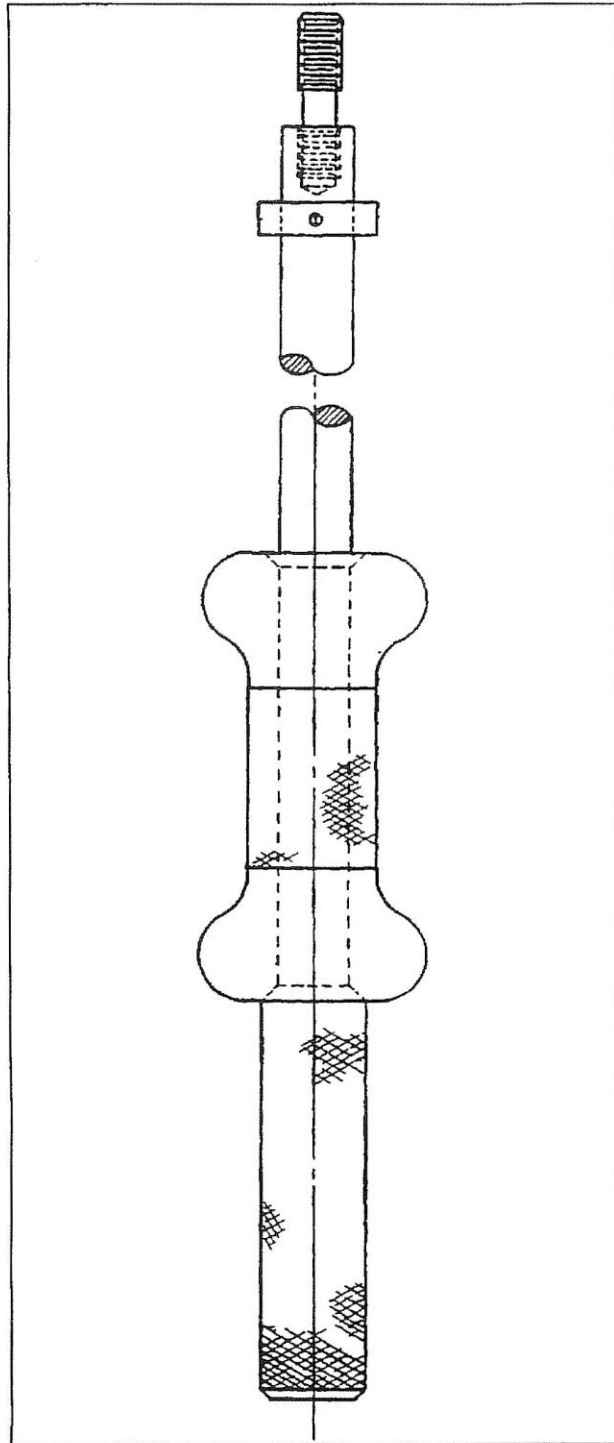

Figure 3-7. Puller Assembly, part No. 7947381-10
- Puller assembly, hinge pin - pin removal tool. See Figure 3-7. (Local manufacture in accordance with Air Force Drawing 7947381, CAGE: 98750.) Puller assembly, part No. 7947381-10 is used for removal of hinge pin, part No. 51B24889.